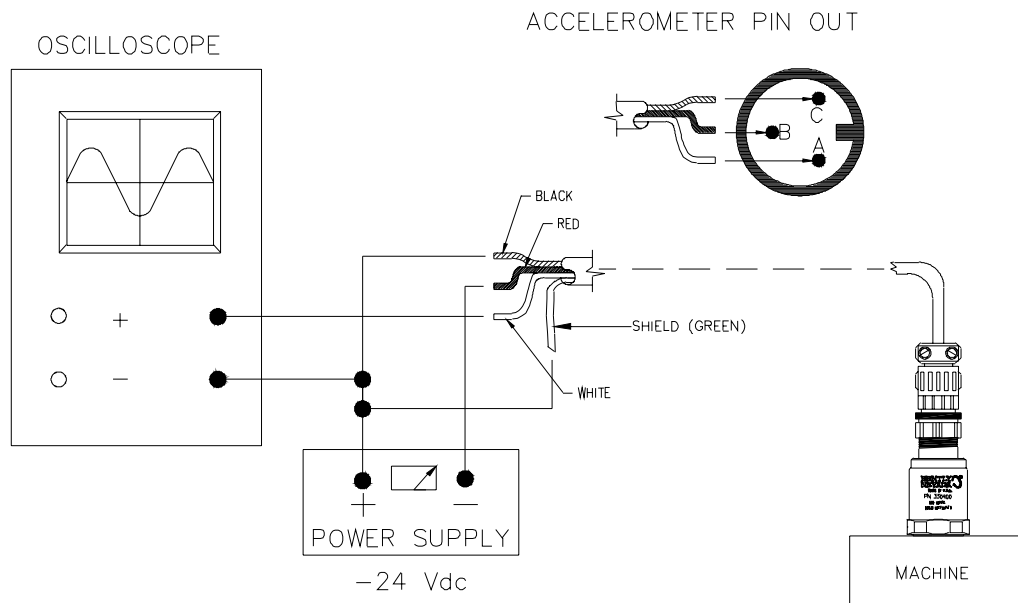

Figure 2-5 Accelerometer/External Power Supply Connections Using 16925 Interconnect Cable
Step 1: Power up the accelerometer as shown in Figure 2-5.